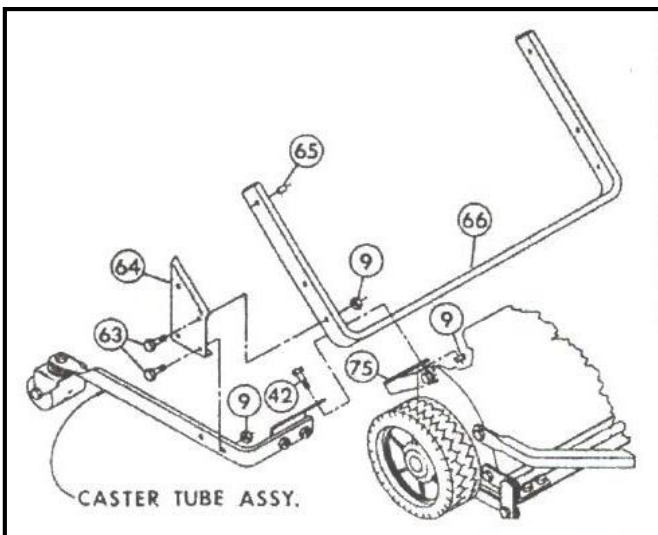
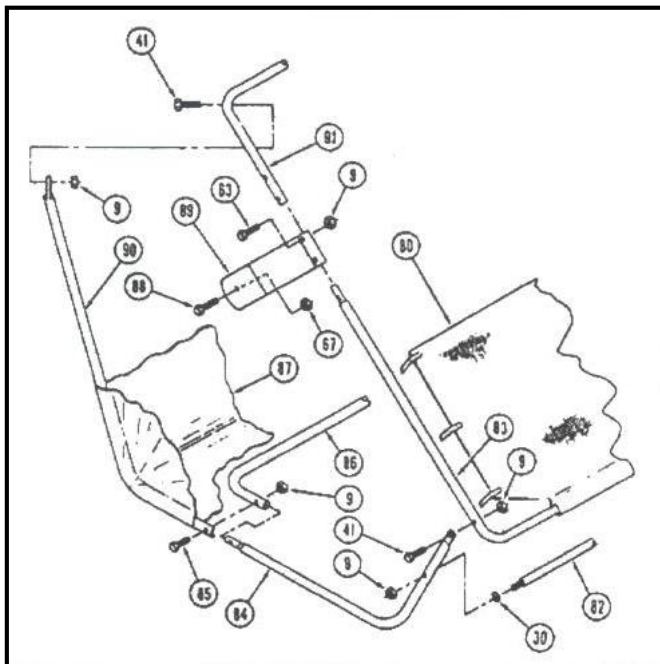

Figure 1
Figure 2
Assemble Hamper Support Tube and Caster Tubing to Lawnsweeper as follows and shown in Figure 1.
- A) Take Hamper Sub-assembly and place on a flat surface. Locate five pieces of ¾" diameter tubing and two Hamper Pivot Brackets (89) as illustrated in Figure 2 (on the next page).
- B) Insert ends of Rear Tube (91) onto ends of Front Tube (83) and align holes. Place Hamper Pivot Brackets (89) with welded brace to the rear over holes. Insert two Bolts (63) and secure with two Lock Nuts (9) on each side.
- C) Place Tie Rod (82) through lip on front of Hamper and put a Flat Washer (30) on each end. Place two Front Lower Hamper Tubes (84) inside Hamper and onto ends of the Rod. Secure with two Lock Nuts (9) on each end. With flat end of Front Hamper Tubes (84) on the outside of Tube (83), align holes and fasten with two Bolts (41) and two Lock Nuts (9). Do not tighten at this time.
- D) Take Lower Rear Tube (86) and place it over the ends of Tubes (84) and align holes. Then position the Rear Corner Tubes (90) over holes and Insert a Tube Bolt (85) through each side and secure with two Lock Nuts (9).
- E) Pulling back of Hamper up with Tube (91), align holes in Corner Tubes (90) and insert two Bolts (41) and secure with two Lock Nuts (9). At this time securely tighten all Bolts in this assembly.
- F) Pulling up and back on Wind Apron (80), align its velcro tabs to tabs on side panels of Hamper (87).
- B) Securely tie Dump Rope (15) to center of Rear Upper Tube (91). Run Rope under Hamper, then up between Hamper and Tube (66) and through Grommet in top of Lawnsweeper. Locate Dump Handle (16) on Rope where it can be reached from your tractor seat and secure by tying a knot on both sides of it.
Place Hamper Assembly from Figure 1 onto Hamper Support Assembly from Figure 2.